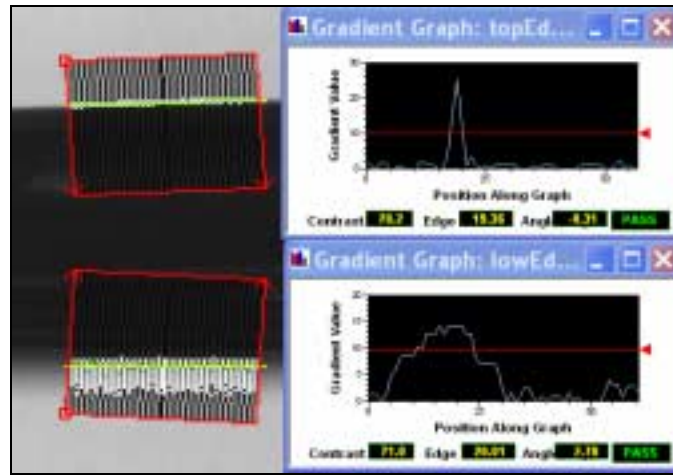
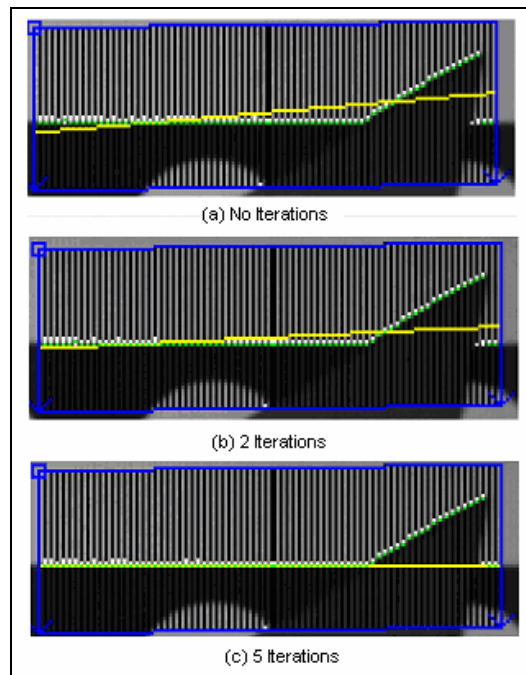

Figure 37: Area Measurement SoftSensors in presence of sharp and fuzzy edges. The gradient graphs indicate the width of the transition.
Figure 39: Use of the number of iterations to overcome imperfections/noise in the part.
- Edge Width: This option lets the user indicate how many pixels determine the edges to be used. If the images are not well focused, the edges will not appear as sharp. In those cases, the user needs to give the SoftSensor an idea of the transition width to better calculate edge positions. Figure 37 illustrates the use of this option. The SoftSensor finding the top edge faces a sharp transition while the one finding the bottom edge faces
- The Max Iterations option lets the user indicate how many times to recalculate the line/circle being interpolated using the data points. After every calculation, points are assigned a certain weight for the next calculation based on the distance from them to the computed output (line/circle). By doing this, the algorithm puts more emphasis of true edge points and less on noise. Figure 39 illustrates the use of this option. Image (a) shows the output line calculated with no iterations. As the image illustrates the output line is not on the edge because of the imperfection of the part. Images (b) and (c) show the same SoftSensor after 2 and 5 iterations. Image (c) is the only one that finds the edge of the part regardless of the imperfections that the part presents.
The line fit SoftSensor (called Area Edge Line SoftSensor) is another area SoftSensor. It works just like the area caliper tool only that it scans in one direction. It consists of many scan lines (a number that the user can specify like in the Measure Across Area SoftSensor). Every scan line intersects the edge of the part being inspected and determines the intersection point. The algorithm then interpolates those points into a straight line which is the output of the SoftSensor. This type of tool is the one shown in Figure 37, Figure 38, and Figure 39.